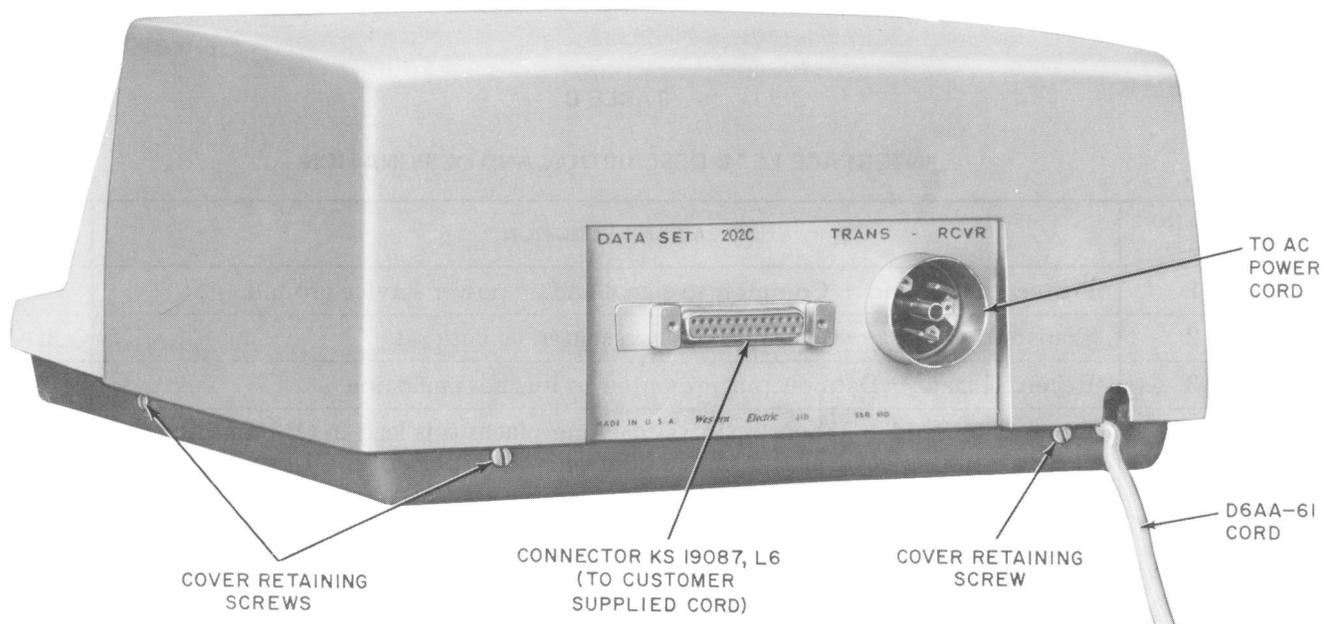

Fig. 2—Data Set 202C-Type—Rear View
2.02 Data Set 202C-type (Fig. 1) is an integrated unit combining a data transmitter-receiver, a line control unit, and a 6-button telephone set in a 2-tone gray plastic case. The case is held in place by six retaining screws in the base (Fig. 2). The weight of the data set is 16 pounds.